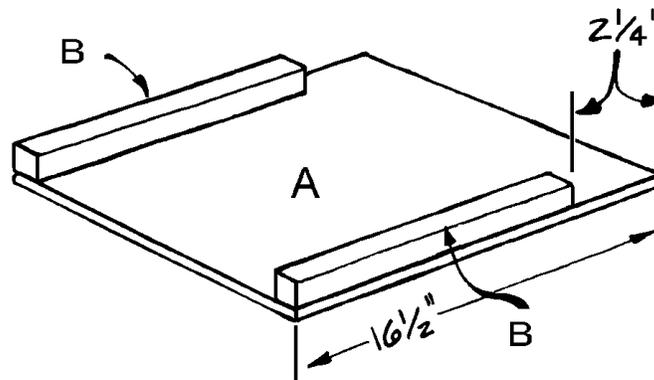

Figure 1
1. Cut two side pieces (A) from $\frac{3}{4}$ -thick plywood, each measuring 16-1/2 inches by 15-1/2 inches.
2. Cut four corner supports (B) from 2 x 2 pine, each 14-1/4 inches long.
3. Refer to *Figure 1*, and attach one corner support (B) flush with each 16-1/2" edge of one side (A). Note that the corner support (B) is positioned flush at one end and is 2-1/4" short at the other end, as shown in *Figure 1*. This 2-1/4" gap will accommodate the addition of the bottom of the chest and the supports underneath. Use glue and 1" screws placed about every 4 inches. Screw through the side (A) into the corner support (B). Although you don't need to countersink these screws because they will be covered by the trim, be sure to drive them in all the way into the wood so that the screw heads don't protrude.